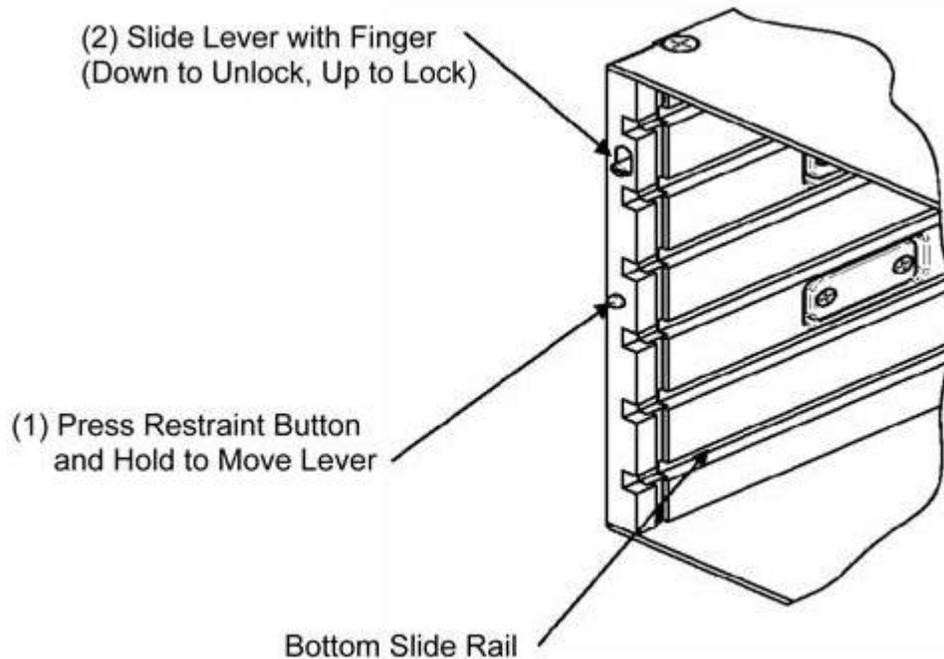

Figure 4. Payload Retainer.
- 4.13 Lock tray in place by using MERLIN restraint mechanisms on both sides of internal volume. Refer to Figures 4 and 5. Press restraint button flush on each side of internal volume. Verify each slide lever went to up locked position. Press down on each slide lever. Verify restraint button out position.